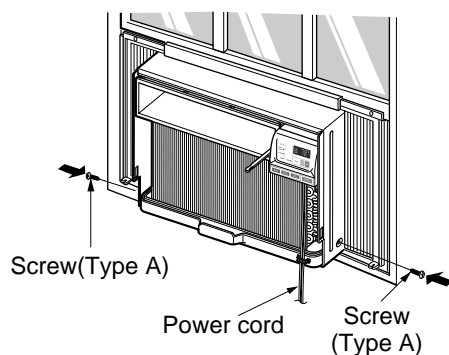

Fig. 7
10. Slide the unit into the cabinet. (See Fig. 7)